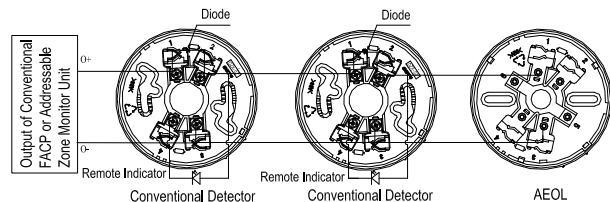

Fig. 4
- If the AEOL is used as the detector base, a conventional detector can be installed on it. The system composition is shown in Fig. 4.